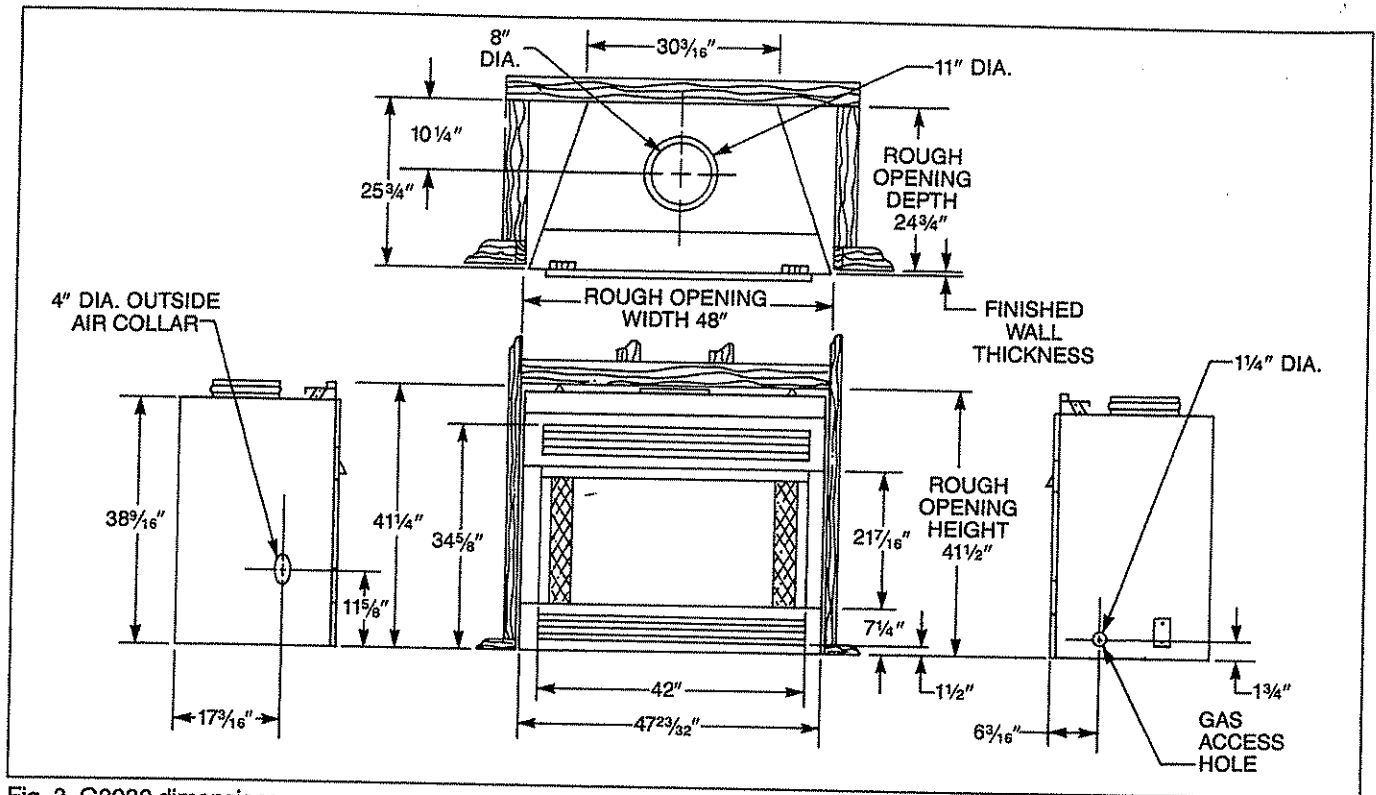

Fig. 3. G2000 dimensions.
Step 3. Build framing. The fireplace framing should be constructed of 2 x 4 lumber or heavier. Refer to Fig. 3. for basic fireplace dimensions that will affect the framing dimensions.